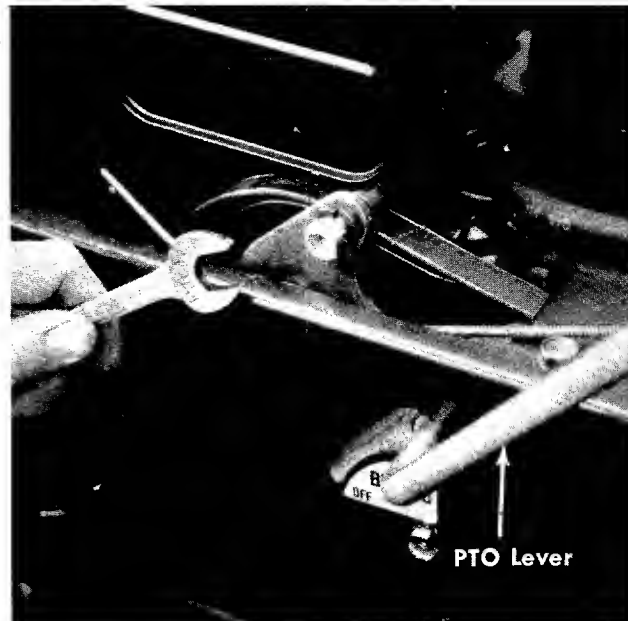

FIGURE 14. IDLER BELT GUARD
- m. Move the PTO lever to the ON position and reassemble the idler belt guard. See figure 14.